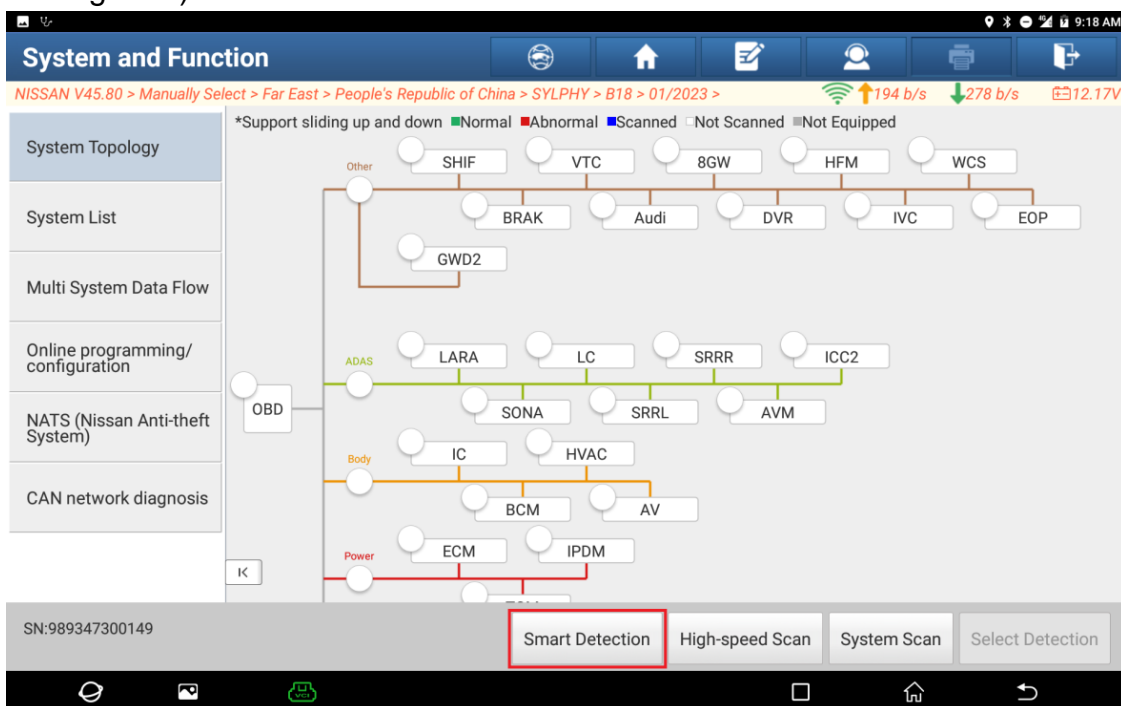

Figure 2
- Choose [Manually Select -> Far East -> People's Republic of China -> SYLPHY -> B18 -> 01/2023] in sequence to enter the full vehicle system, and click [Smart Detection] to scan the full vehicle systems (as shown in Figure 2).